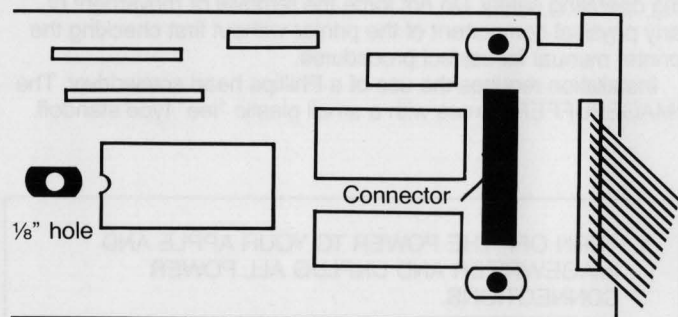

Figure 2. ImageWriter II Circuit Board
- See Figure 2 for the location of the connector on the ImageWriter II circuit board. Hold the IMAGEBUFFER board so that you can read the label, or so that the connector underneath is on the right hand side. Notice the hole in the center of the IMAGEBUFFER. Carefully guide the hole over the end of the standoff. After the board has been guided onto the standoff, shift it so that the connector on the board drops into the connector well on the ImageWriter II. Press down firmly with a slight rocking motion until the IMAGEBUFFER is seated.